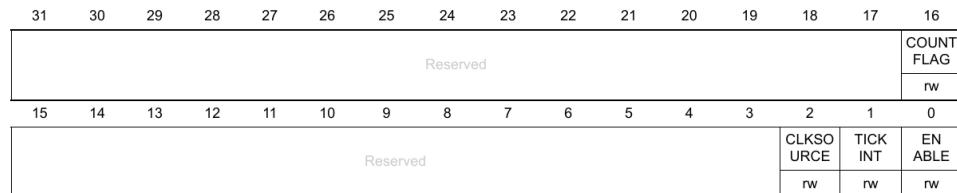

Fig. 13.5: Control Register (CTRL)
**Solution:** Fig. 13.5 shows the SysTick CTRL register. 0x00010000 is used in the above command to mask all the bits except for bit 16, which is the COUNTFLAG. The **while** loop will stop once COUNTFLAG = 0. The while loop is used for the delay.
**Solution:** From Fig. 13.5, ENABLE = 1 enables the counter (for delay) and CLKSOURCE = 1 enables the 8 MHz internal RC clock.